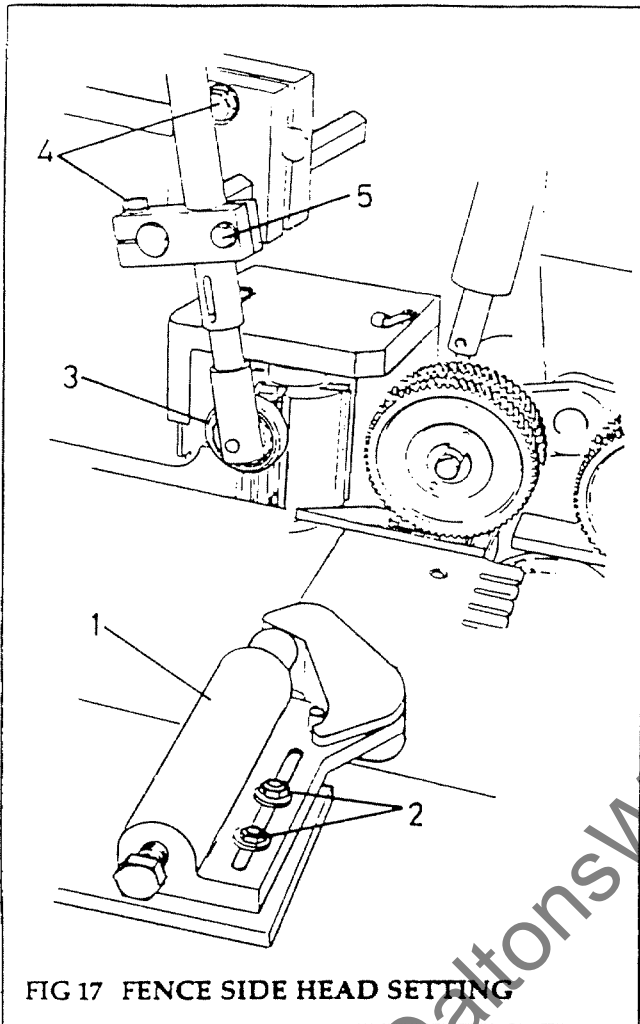

FIG 17 FENCE SIDE HEAD SETTING
- (2) Set the fence (4) adjustment with handle (5) after releasing clamps (6). Refasten clamps after adjustment. Set the amount of cut by direct reading on the scale (7).
- (3) The adjustable guard (8) must be set within 5mm of the maximum timber size. Slacken starwheel (9), set guard and re-tighten starwheel.
- (4) Set side pressures (10), to suit width of workpiece.
**Check/Adjust at Fence Side Head (fig 17)**
- (1) Adjust the side shoe pressure to the timber so that moderate force is exerted on the timber:
- Adjust the side pressure (1) by unscrewing the two nuts (2) and adjusting side rollers to suit width of stock.